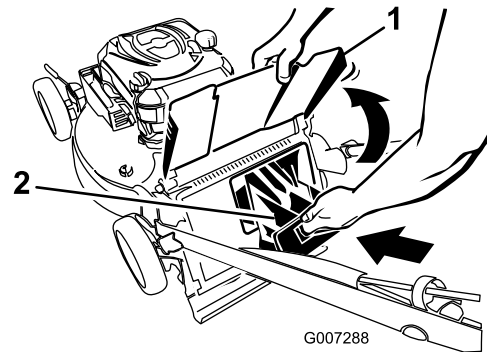

**Figure 25**
1. Route the starter rope around the lower rope guide (Figure 25).